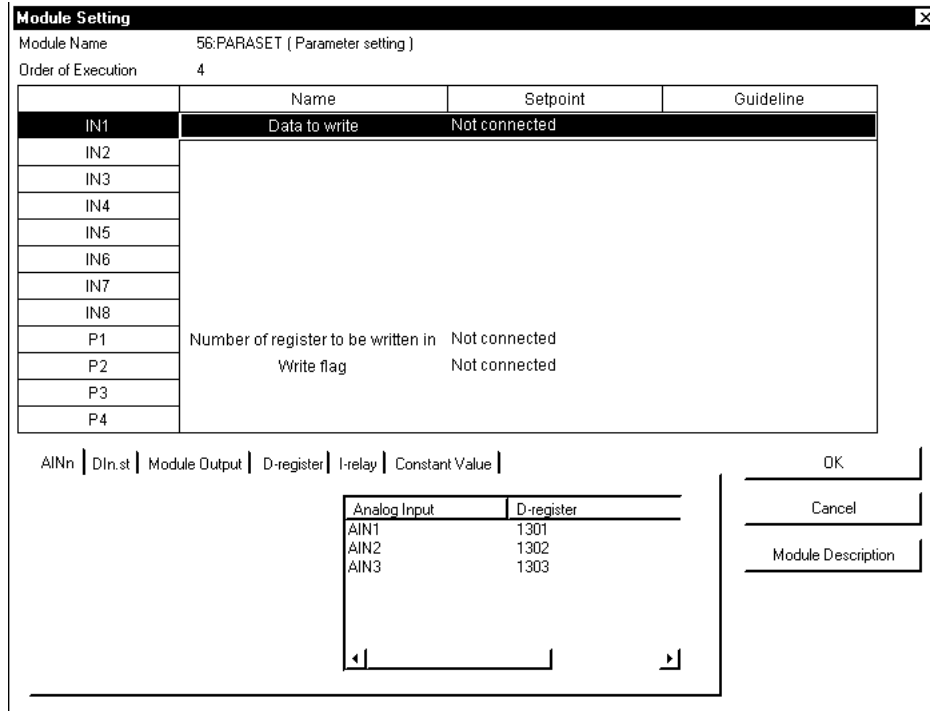

Figure 12.6.5 [Module Setting] Dialog Box
- ① Click the registered fourth-run PARASET module.
- ≠ From the tool menus, choose <Editing>, then <Connection>. The [Module Setting] dialog box (Figure 12.6.5) appears.